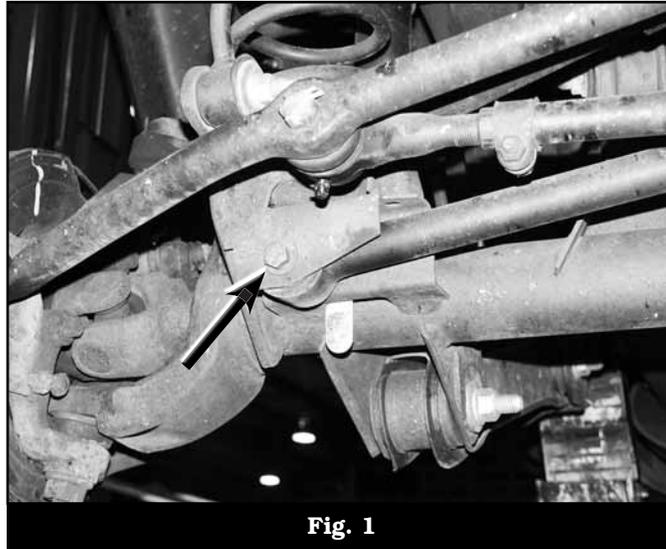

Fig. 1
1. Remove the bolt mounting the front track bar to the passenger's side of the axle (Fig 1). Save track bar bolt and nut tab. Allow the track bar to hang free.